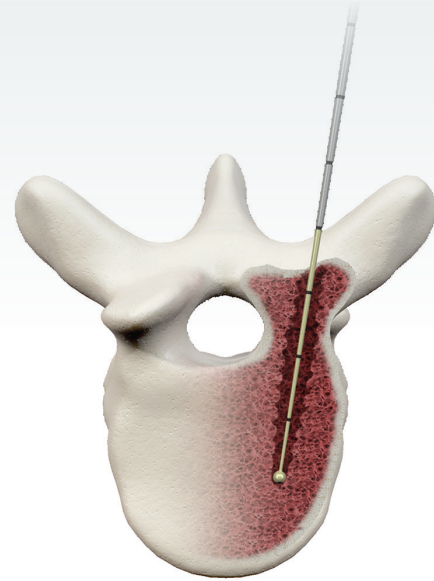

Figure 9
- A ball-tipped, sounding probe may be used to check pedicle integrity, trajectory, depth, and/or threads tapped into bone (**Figure 9**).